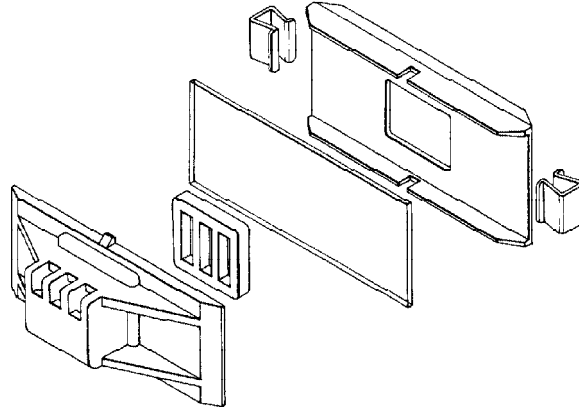

Figure 3. Cell Concentrator Assembly
4.5 Assembly of the Cell Concentrator (See figure 3.)
1. While maintaining the “rest” position (see figure 3); carefully remove the assembled cell concentrator from the rotor. This assures excess fluid in the sample wells will not contact cells on the slide surface.